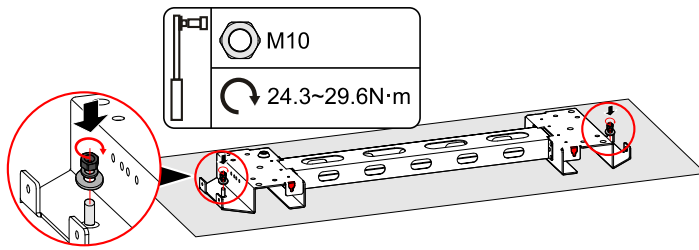

Figure3-15 Fix the base module
Step 5 Fix the base module to the installed floor, as shown in Figure3-15.